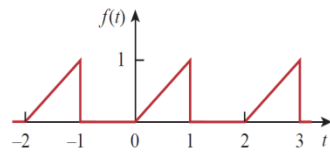

Fig. 7
a) Obtain the Fourier series for the periodic function in Fig.7 [8M]